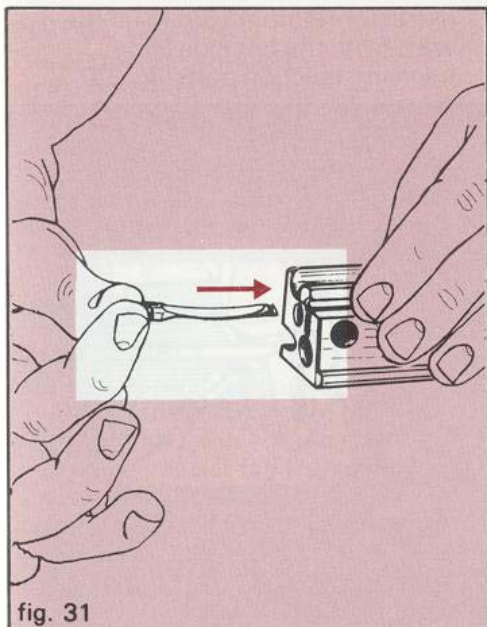

fig. 31
2. Insert extractor in bolt from the rear with claw forward and slot in thick end up (fig. 31).